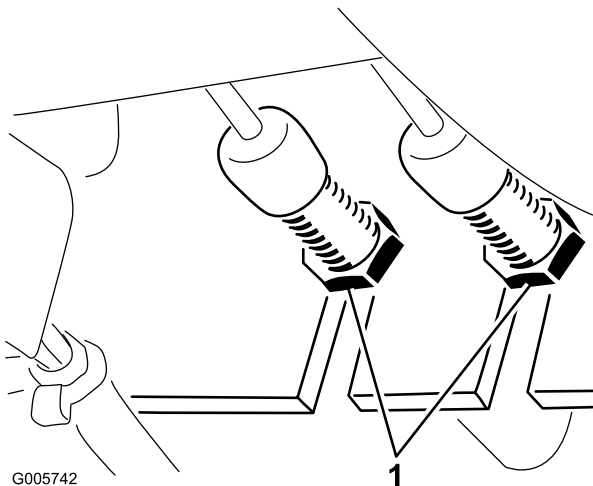

Figure 62
1. To reduce free travel of turn pedals—tighten the brakes—loosen front nut on threaded end of brake cable (Figure 62). Then tighten rear nut to move cable backward until turn pedals have 1/2 to 1 inch (13 to 25 mm) of free travel. Tighten front nut after brakes are adjusted correctly.